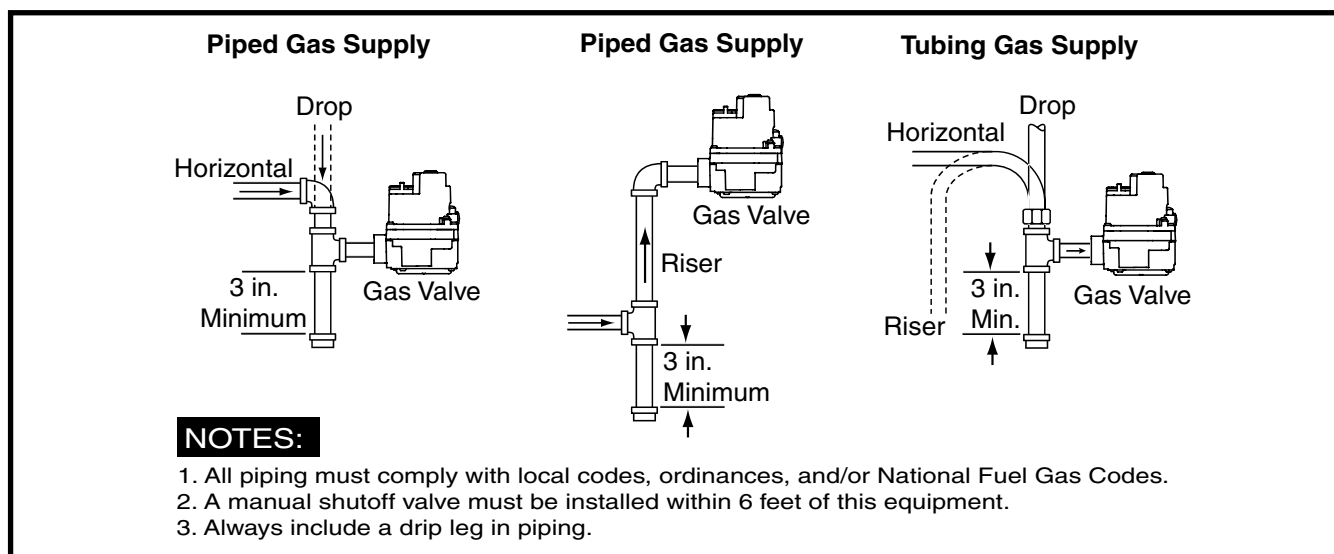

Figure 9. Typical Gas Service Connection
- Some local codes require the installation of a manual main shut-off valve and ground joint union external to the furnace (Figure 9, page 13). The shut-off valve should be readily accessible for service and/or emergency use. Consult the local utility or gas supplier for additional requirements regarding placement of the manual main gas shut-off.
- A drip leg should be installed in the vertical pipe run to the unit (Figure 9).
This unit only has right side gas entry. When connecting the gas, provide clearance between the gas supply line and the entry hole in the unit's casing to avoid unwanted noise and/or damage to the unit. A typical gas service hook-up is shown in Figure 9.